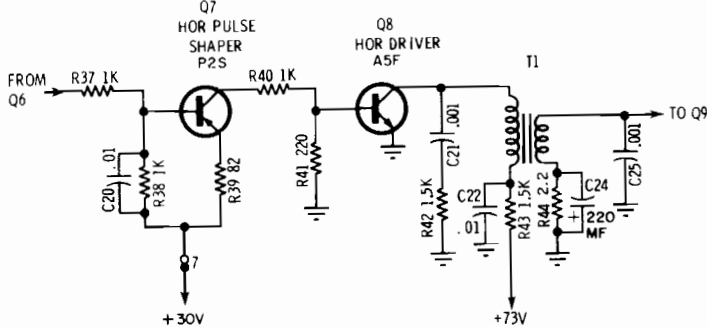

Figure 13. Pulse Shaper and Horizontal Driver
**Pulse Shaper & Horizontal Driver (Figure 13)**